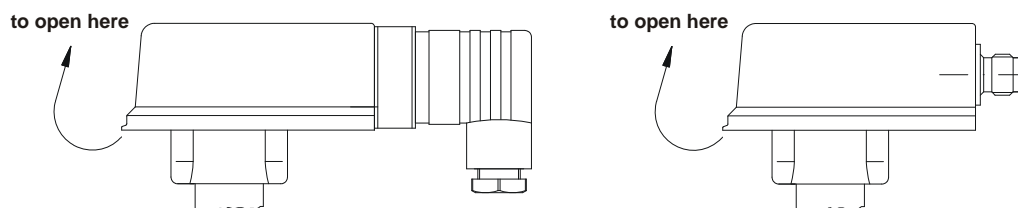

Fig.14
- 🔧 To adjust the reed switching unit, open the junction box of the switch head (→ Fig. 14) (does not apply for VK60...)